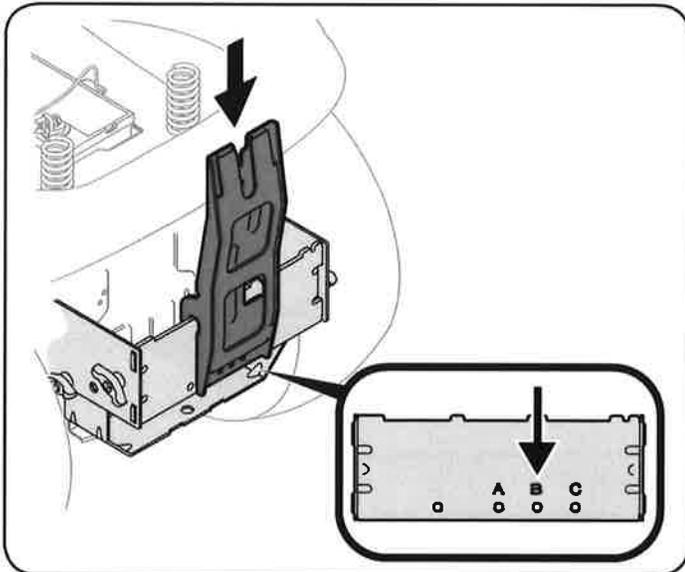

Figure 9
4. Install the upright support bracket onto the mounting assembly on the tractor by hooking it over the cross mounting bracket, as in Figure 9.
**Note:** The mounting bracket includes a stamping above each mounting hole indicating which position to mount the upright bracket. See the inset of Figure 9. There will either be deck sizes engraved on the plate, or letters such as A, B, and C. Hole "B" is suggested for 42" decks, and Hole "C" is suggested for 46" decks. Some kits may contain plates with deck size suggestions instead of letters.